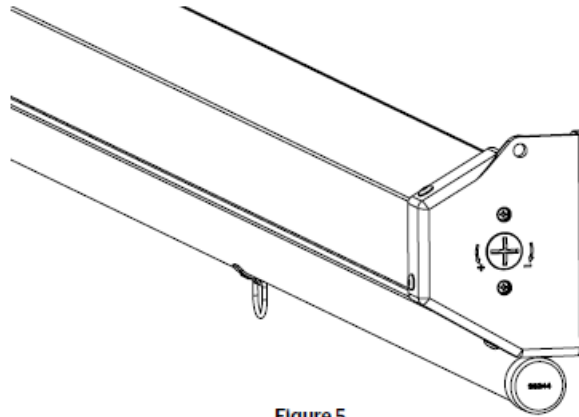

Figure 5
- To Adjust Retraction Speed (Screens 96" Wide and Under) Use a large flat screwdriver to turn the adjustment knob on the right end of the screen (Figure 5). To increase the travel speed turn counterclockwise. To decrease the travel speed turn clockwise. Adjustments